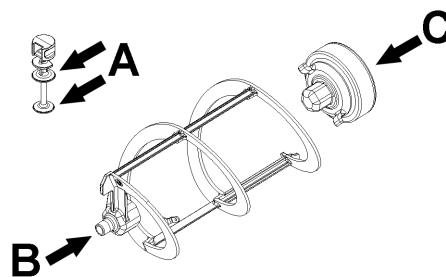
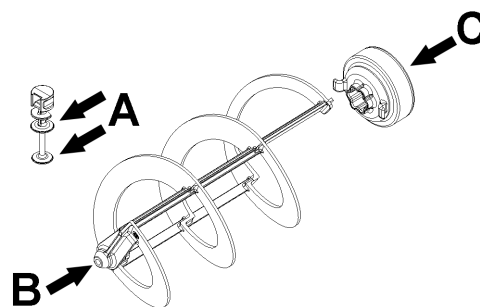

figure 16
figure 17
- 2** Lubricate the tap piston, the hexagonal joint and the mixer at the points indicated in figure 16 (B-Frozen 6) or figure 17 (B-Frozen 10), using only the grease that came with the machine
- 3** Reassemble the tap on the container in reverse order compared to that shown in figure 16 and figure 17.